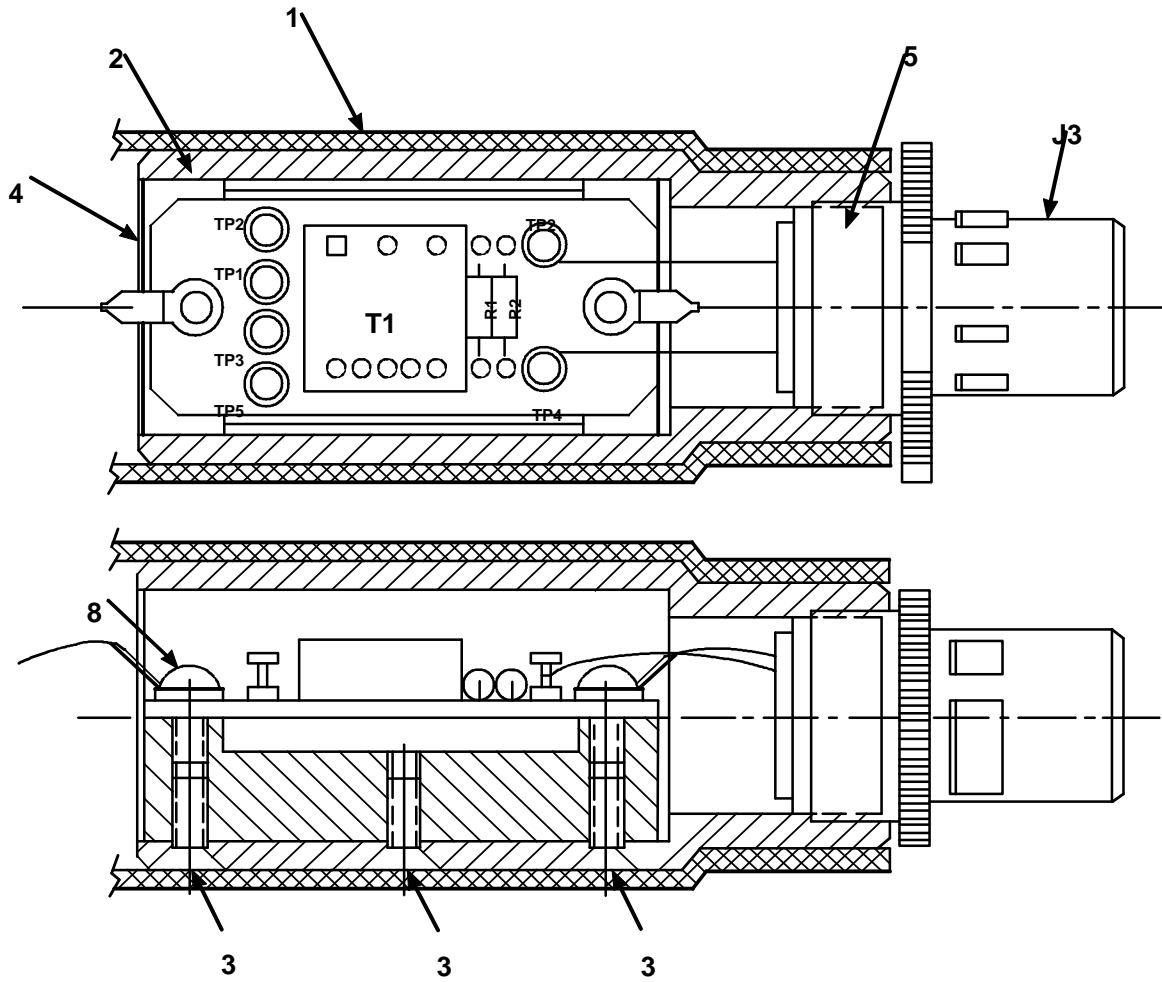

Figure 3-9. 1553 Stub (Part of Power and Data Cable (5-M), P/N 12979005)
**3.3.8 1553 Stub Repair Procedures.** Refer to Figure 3-9. Assembly and disassembly as follows: